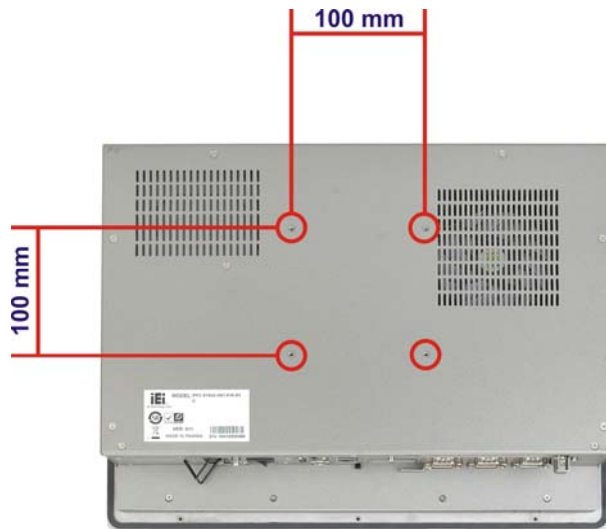

Figure 3-30: Arm Mounting Retention Screw Holes
Step 3: Align the retention screw holes on the mounting arm interface with those in the PPC-51xxA-H61 panel PC. The arm mounting retention screw holes of the PPC-51xxA-H61 panel PC are shown in **Figure 3-30**.